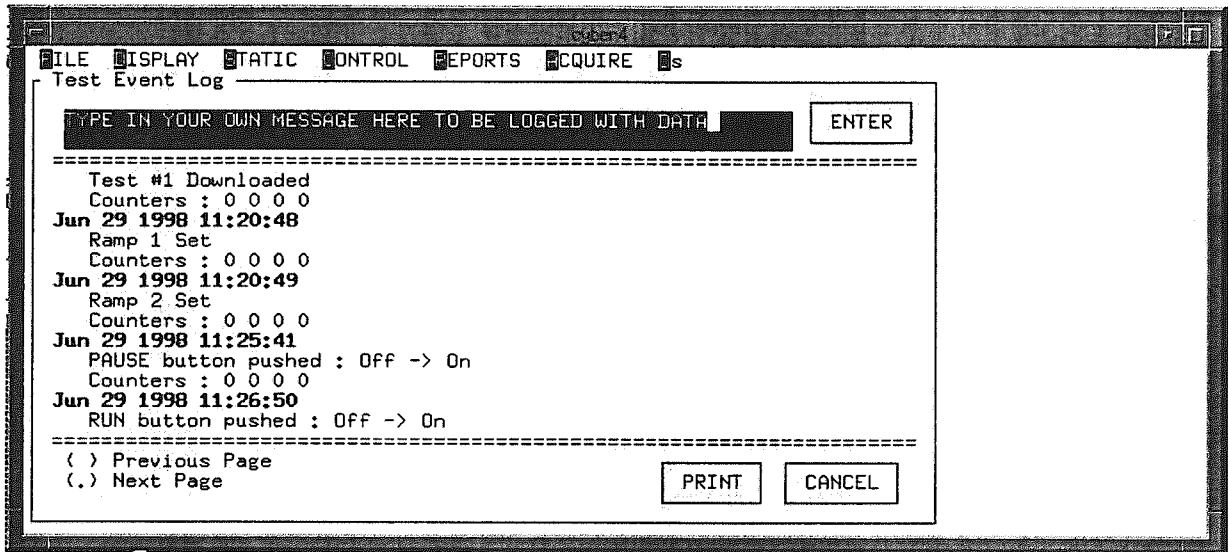

Figure 14-1 Events Log Display
- Step 1)** Select **Events Log** from the **DISPLAY** menu. A display similar to the example in **Figure 14-1** will appear on the screen.